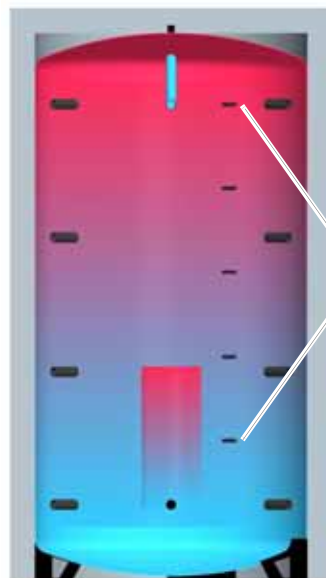

Figure 4/25 - Installing the sensors
1. Seal the immersion sleeves of the sensors with a suitable sealing material and position them at the points indicated in the figure 4/25.